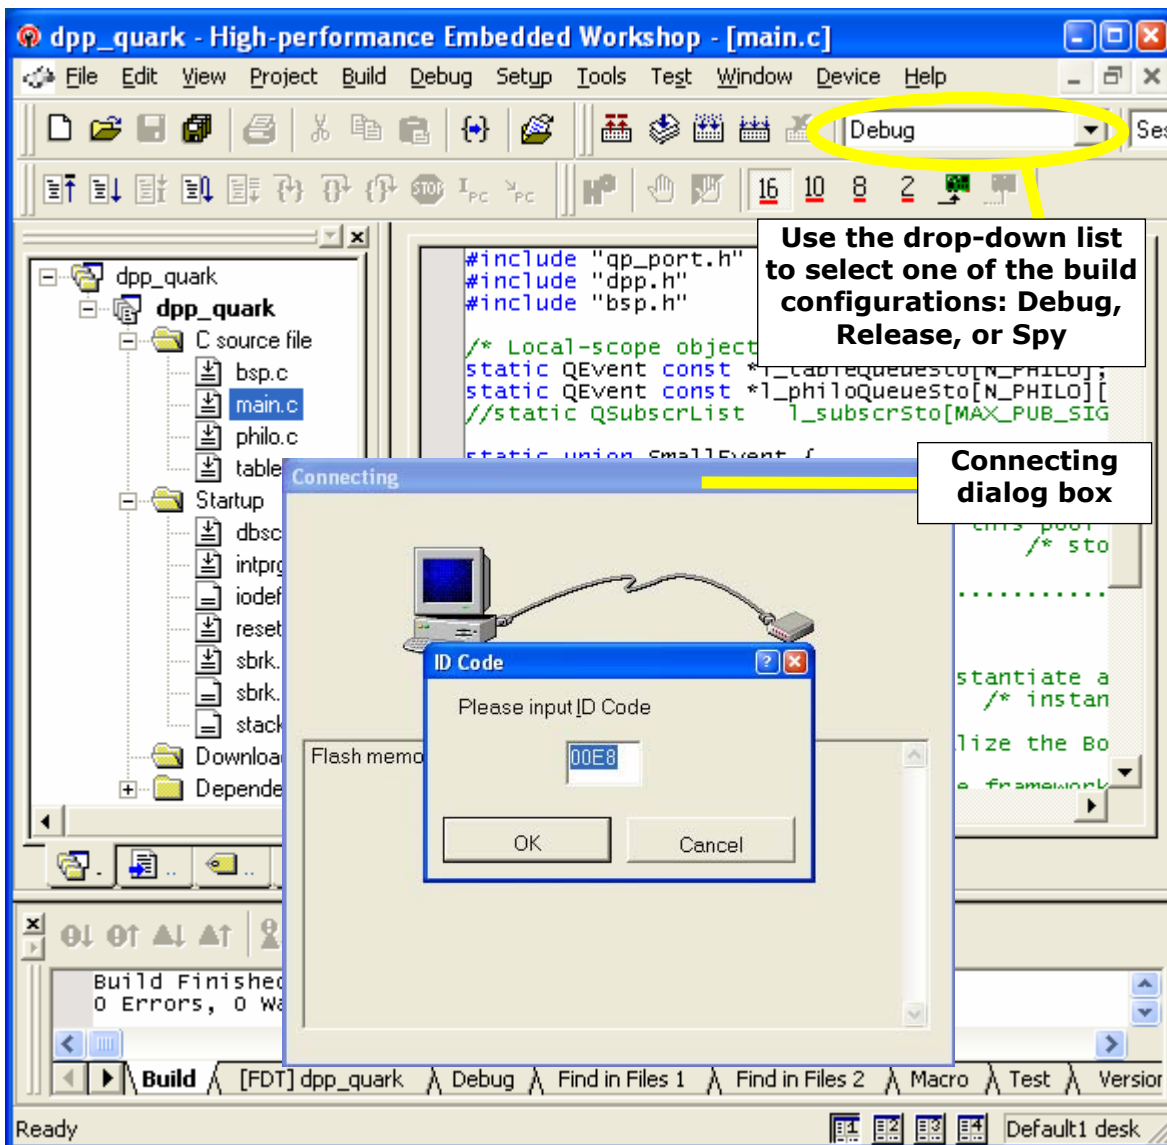
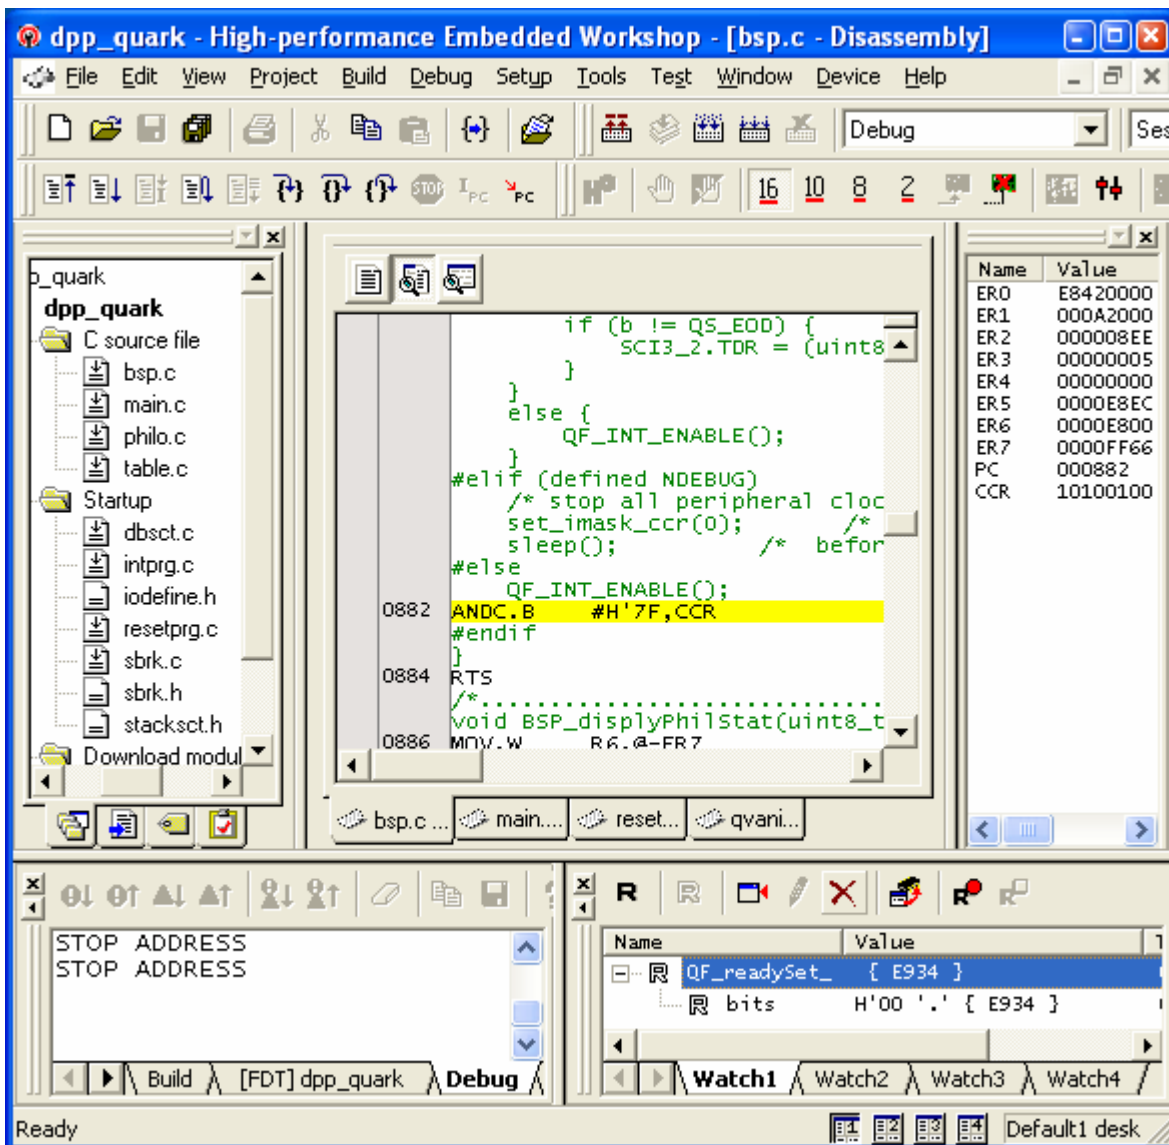

Figure 2 HEW IDE with the `dpp_skp36077` project.
Figure 3 HEW Debugger with various views of the executing DPP application.
The example directory contains the HEW workspace file `dpp_skp36077.hws` that you can load into the HEW IDE. The workspace contains two build configurations (Debug, Release, and Spy) that you can select with the drop-down list, as shown in Figure 2.
NOTE: The DPP example workspace comes with three build configurations: Debug, Release, and Spy. You select the build configuration through the drop-down list, as shown in Figure 2.
2. Launch HEW IDE and open the project dpp_skp36077.hws (located in <qp>\examples\h8\vanilla\renesas\dpp_skp36077\). Figure 2 shows the screen shot of the HEW IDE after opening the project.
The HEW debugger can directly communicate with the E8 In-Circuit Debugger (see Figure 1). To load the code into the MCU's flash, select Debug | Download Modules menu (see Figure 2). This will launch the progress-bar message box. When the message box window goes away, the MCU is programmed. You can run the example by selecting menu Debug | Go (see Figure 3).